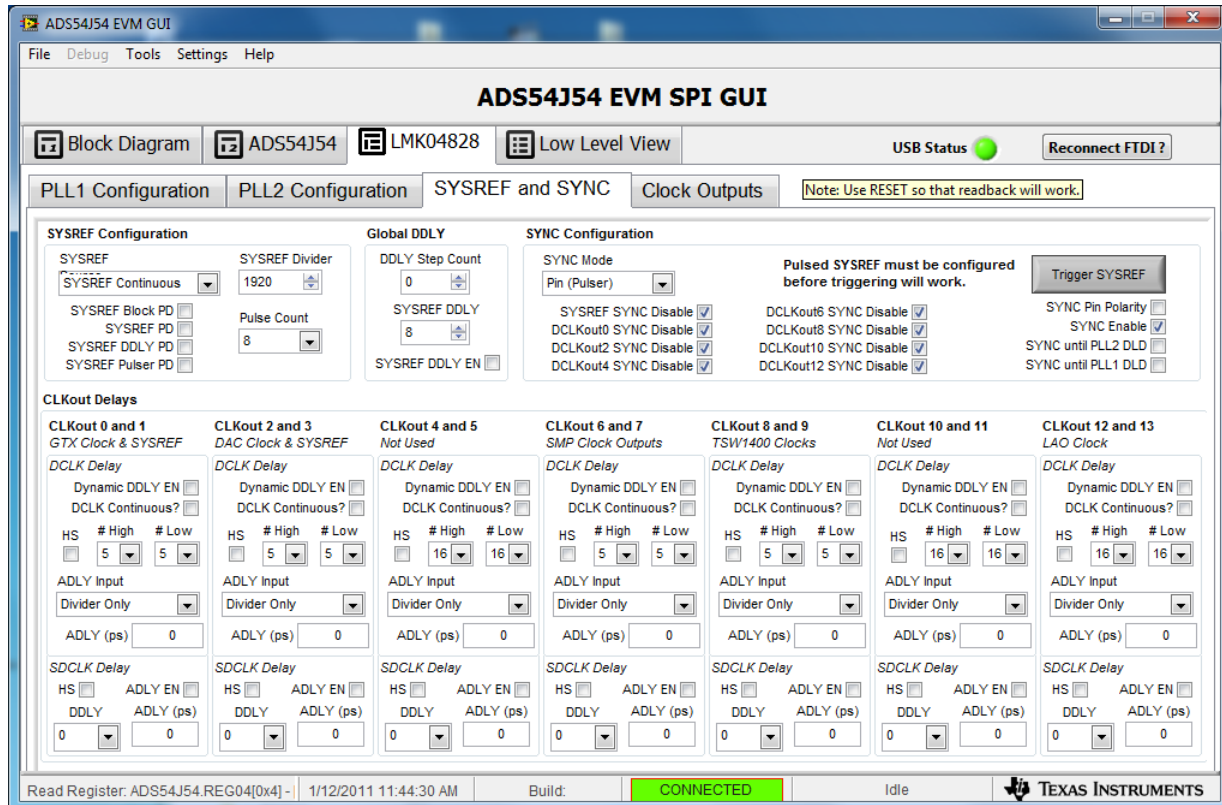

Figure 8. LMK04828 SYSREF and SYNC tab
Clicking *SYSREF and SYNC* opens the LMK04828 SYSREF and SYNC tab, shown in Figure 8. This tab has controls specific to the generation of the SYSREF outputs of the LMK04828. Along the top of the tab are controls that are common to all 7 of the SYSREF outputs, such as the SYSREF divider. Once the JESD204B link is configured for a specific line rate and all JESD204B parameters such as L, M, F, and K are chosen, then the SYSREF divider should be set to match the SYSREF rate to the Local MultiFrame Clock period, or LMFC period. For the default configuration of the ADS54J54 EVM as configured by the ADS54J54_500M_LMF881 config file, the device is set up for 2 lanes per channel, 1 octet per lane, with a K value of 32. The resulting SYSREF divider value is 1920 as shown in Figure 8, matching the SYSREF rate to the LMFC rate of the ADS54J54 and TSW14J56 capture card configurations. Along the bottom of the tab are controls that are specific to each of the 7 SYSREF outputs, such as delay settings.
9. Since a periodic SYSREF signal acts as a sub-harmonic clock of the converter sampling clock and may have spurious effect on the converter performance, it may be turned off during normal operation once synchronization has been achieved. Click on the tab labeled *LMK0428 Clock Outputs* located at the top of the GUI. Check the control for SDCLKout_PD in the block of controls for clocks CLKout 2 and 3. (See Figure 8) This will power down the SYSREF to the ADS54J54. The SYSREF must be running initially in order to establish a JESD204B link between the ADS54J54 and the FPGA on the TSW14J56 but after initialization, the SYSREF is no longer needed and may result in clock spurs coupling into the ADS54J54, reducing performance.